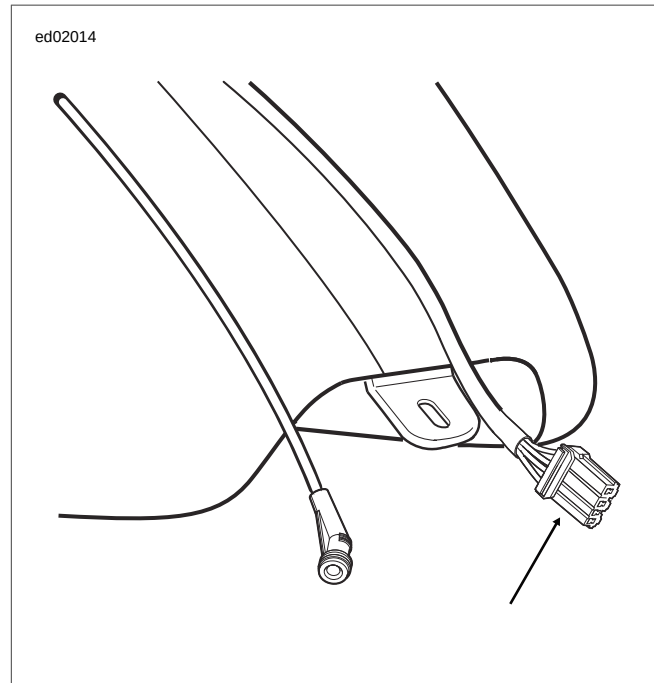

Figure 6-48. Fuel Pump/Fuel Level Sender Connector:
See Figure 6-48. When the engine is stopped, the pump can be turned on by applying battery voltage to the (O/GY) wire and ground to the (BK) wire of the fuel pump connector [141B].